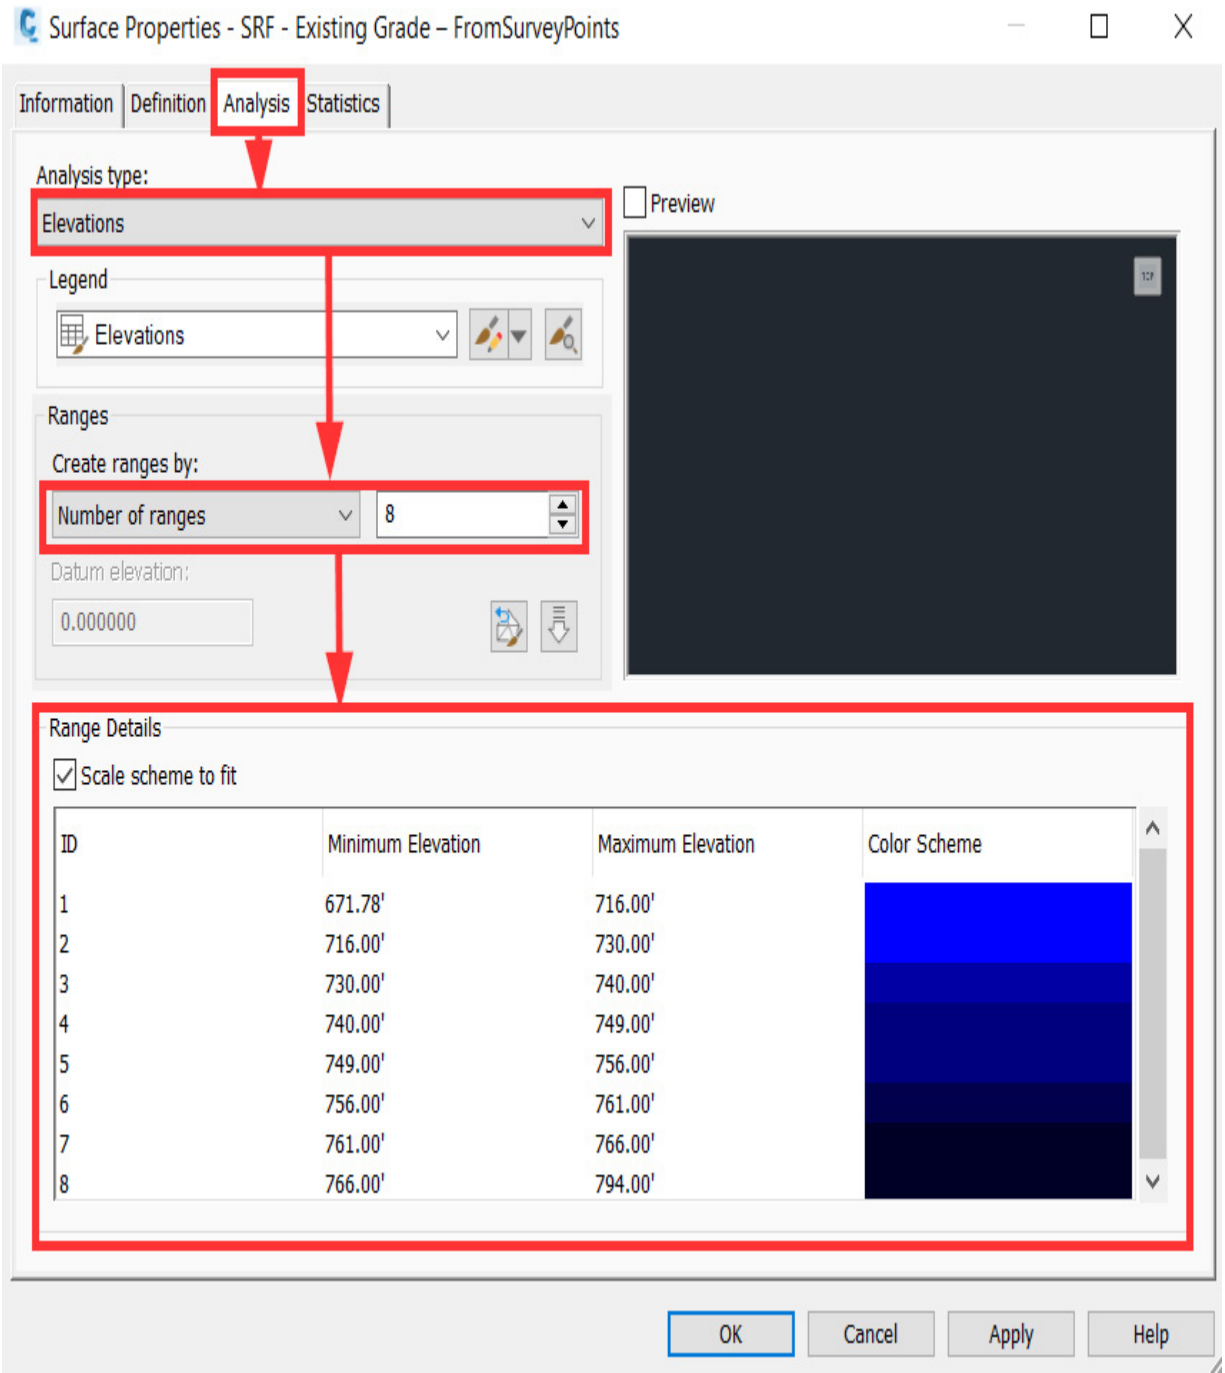

Figure 6.14 – Example of Analysis settings applied to our surface model
*It's important to note that surface table styles will reference the user-defined settings applied in the **Analysis** tab in the **Surface Properties** dialog box (refer to *Figure 6.14* for the location and example settings).*
- **Direction:** This table style will be dynamically linked to the settings defined in *Figure 6.14* and display direction ranges, colors, and area values accordingly
- **Elevation:** This table style will be dynamically linked to the settings defined in *Figure 6.14* and display elevation ranges, colors, area, and volume values accordingly
- **Slope:** This table style will be dynamically linked to the settings defined in *Figure 6.14* and display slope ranges, colors, and face area values accordingly
- **Slope Arrow:** This table style will be dynamically linked to the settings defined in *Figure 6.14* and display slope arrow ranges, colors, and face area values accordingly
- **Contour:** This table style will be dynamically linked to the settings defined in *Figure 6.14* and display contour ranges, colors, areas, and volume values accordingly
- **Watershed:** This table style will be dynamically linked to the settings defined in *Figure 6.14* and display number, type, description, color, hatching, and drainage area values accordingly
- **User-Defined Contour:** This table style will be dynamically linked to the settings defined in *Figure 6.14* and display user-defined contour ranges, colors, areas, and volume values accordingly